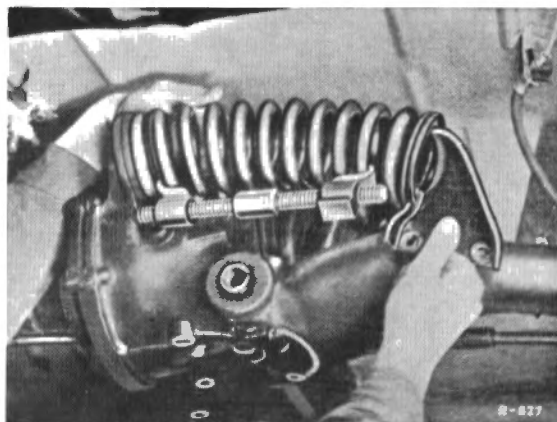

Fig. 32-7/2
3. Unscrew the two hexagon fixing screws (6) for the bracket. Then remove the bracket and the compensating spring (Figs. 32-7/1 and 32-7/2).
4. Check the two rubber rings (2) and (4) and the bracket (5) (Fig. 32-7/1).